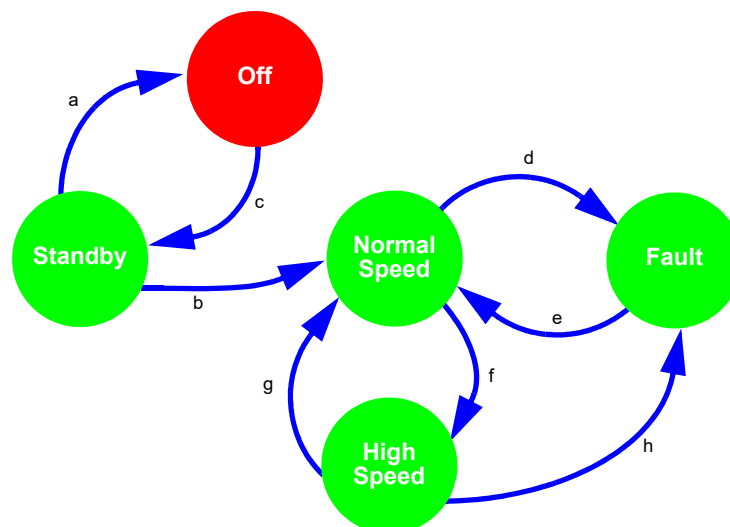

Figure 109: Asynchronous State Machine State Transitions
The Asynchronous State Machine macrocell is one of several macrocells in the Asynchronous State Machine Subsystem, and its specific role is to hold one active state at a time, and to facilitate user defined state transitions in a fast and power efficient manner. This macrocell is designed to allow the user to create state machines with between 2 to 12 states. When combined with the other macrocells in the ASM subsystem [four Dynamic Memory (DMx\_x) macrocells, three Matrix Interface (MIx) macrocells, and one f(1) Computation Macrocell], the user has flexibility to define the available states, the available state transitions, and the input signals (a, b, c ...) that will cause transitions from one state to another state, as shown in the example in Figure 109.